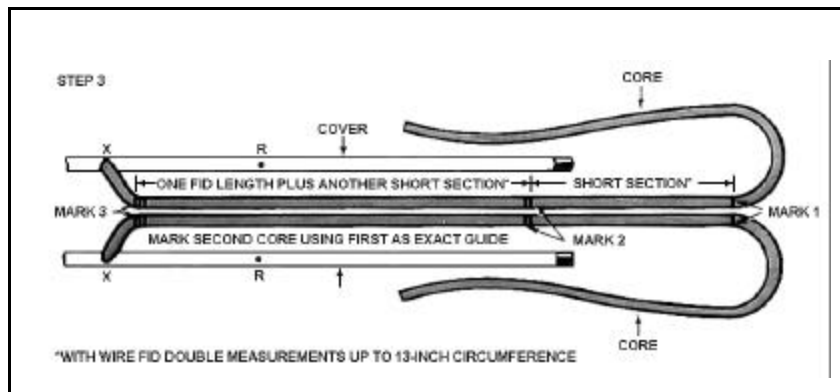

Figure 12-68. Marking the Cores
- STEP 3 -- Marking the cores.** Hold one core at Mark 1 and slide cover back to expose more core (see Figure 12-68). From Mark 1 and following the core towards point X, measure a distance equal to the short section of fid and make two heavy marks. This is Mark 2. Measure one fid length plus another short section from Mark 2 in the same direction and make three heavy marks. This is Mark 3. Mark second core by laying it alongside the first and using it as an exact guide.